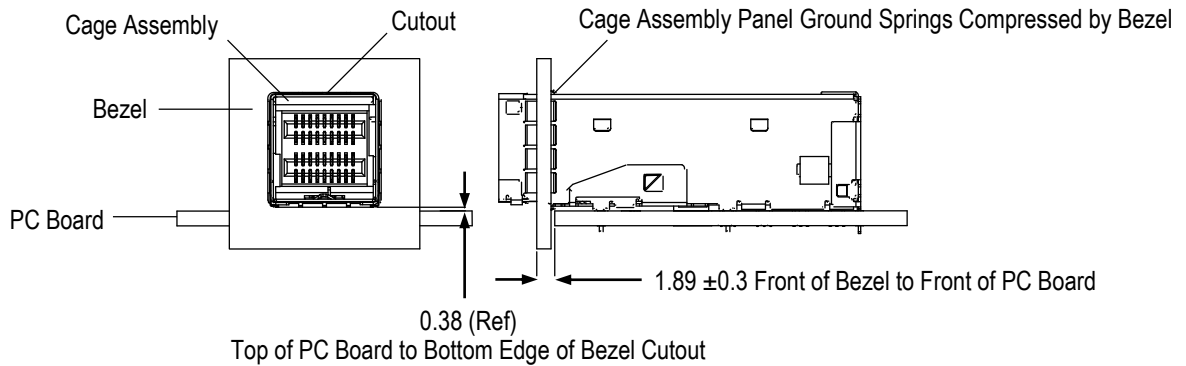

Figure 7
- Corrected arrows for plating in Figure 2 and arrows for bezel placement in Figure 7
After assembly, the cage assembly panel ground springs must be compressed by the bezel. A slight bow in the cage assembly is permitted. The bezel and pc board must be positioned according to the dimensions given in Figure 7.